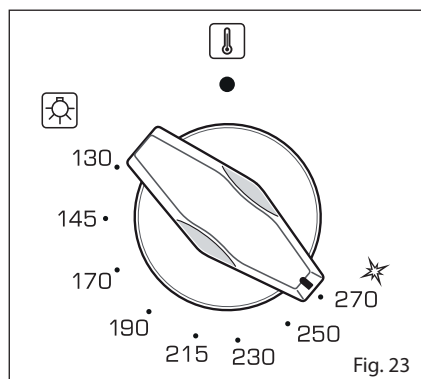

Fig. 23
- 2 – Lightly press and turn the thermostat knob anti-clockwise to the maximum position  (fig. 23). Press the knob firmly until the burner lights.